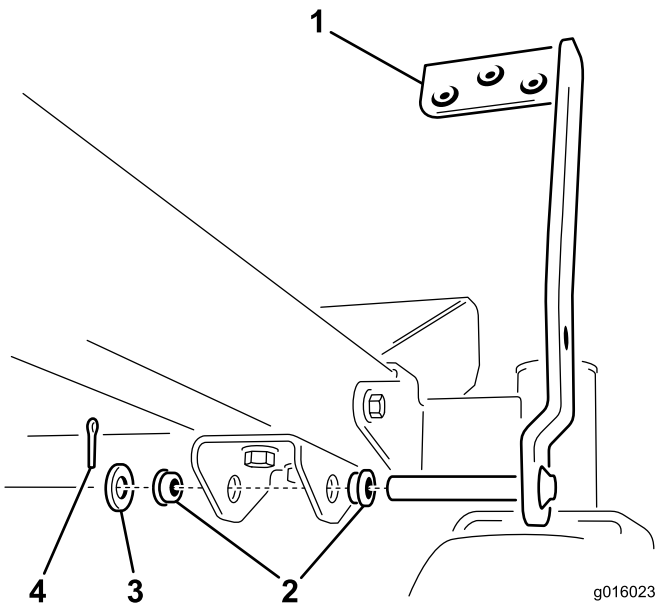

Figure 6
1. Install a flange bushing into each hole in the bracket as shown in Figure 6.
2. Install the foot pedal to the front bracket (Figure 6), inserting the pin of the pedal into the bracket holes with the flange bushings.